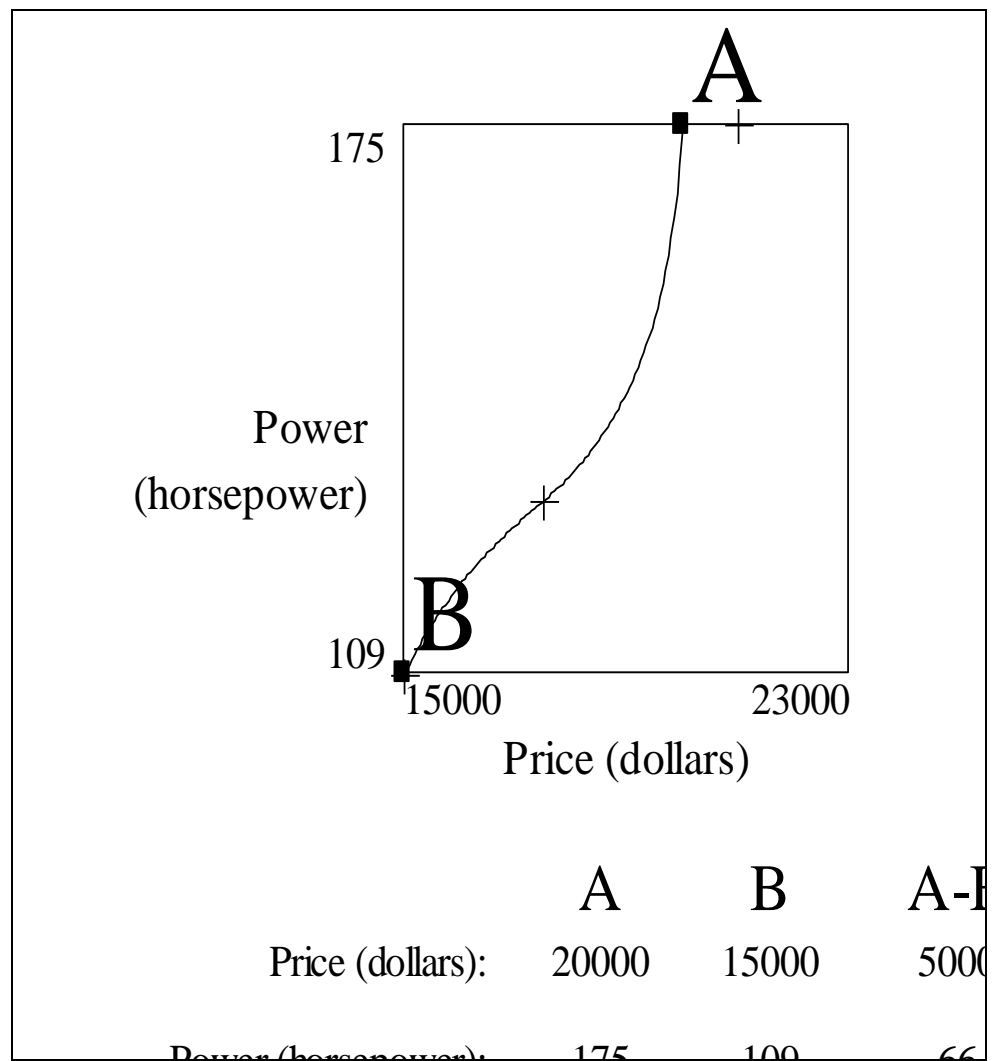

Figure 4- 10. Tradeoff between Price and Power
7. Logical Decisions will draw the revised alternative **A** on the graph and will draw a line will be drawn to connect it with alternative **B**. The graph should look like Figure 4- 10.